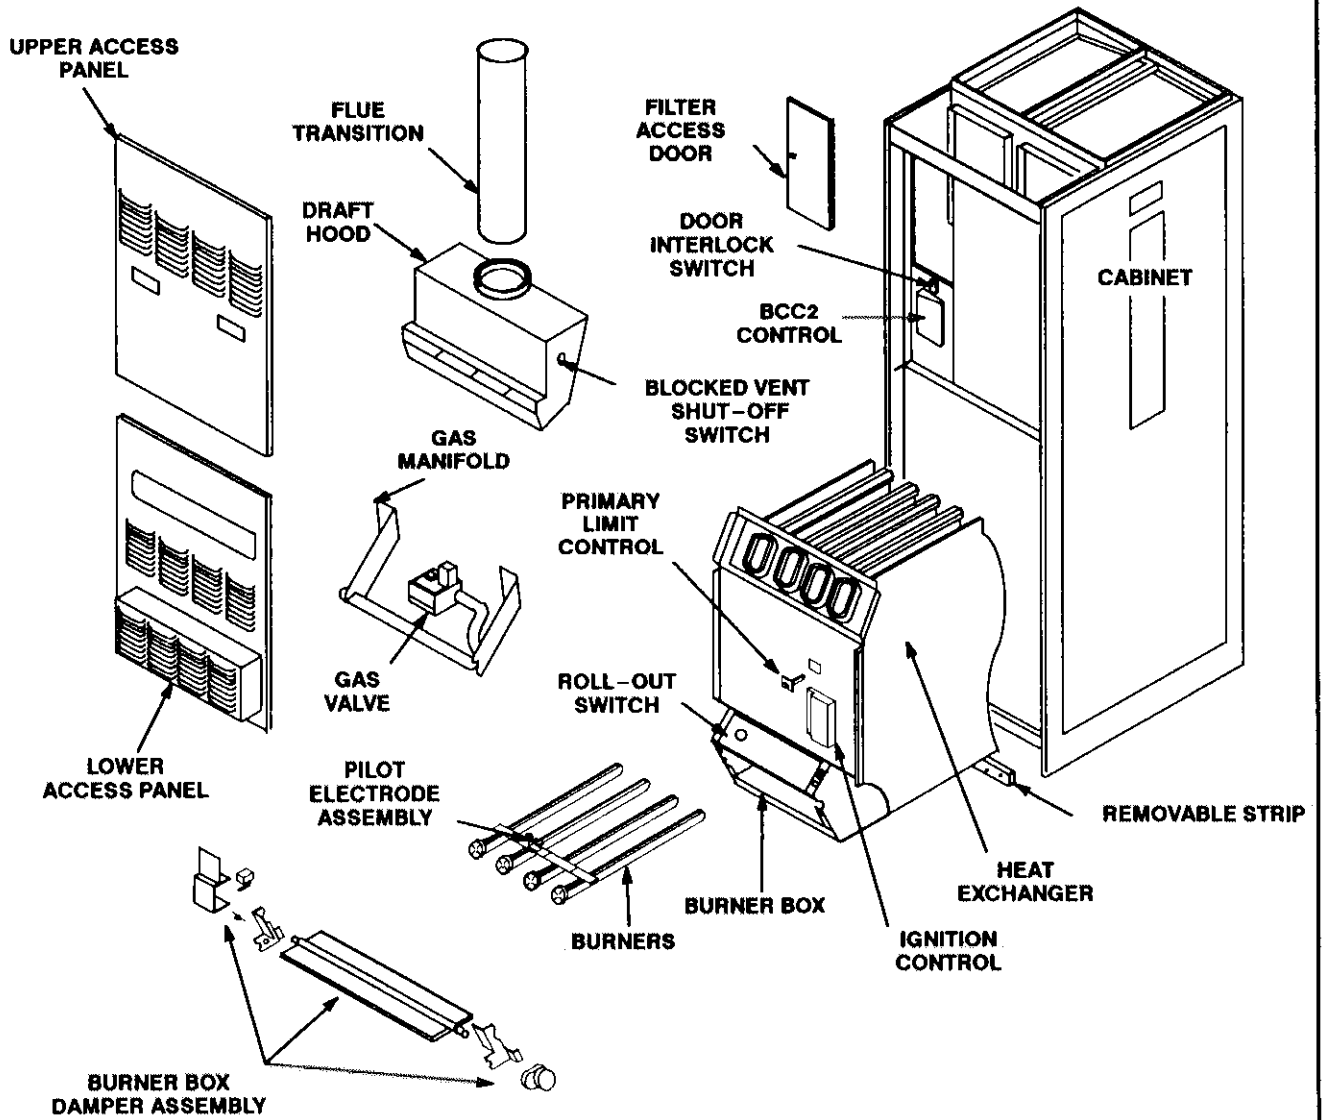

FIGURE 1
- 5- Remove lower access panel. See figure 1.